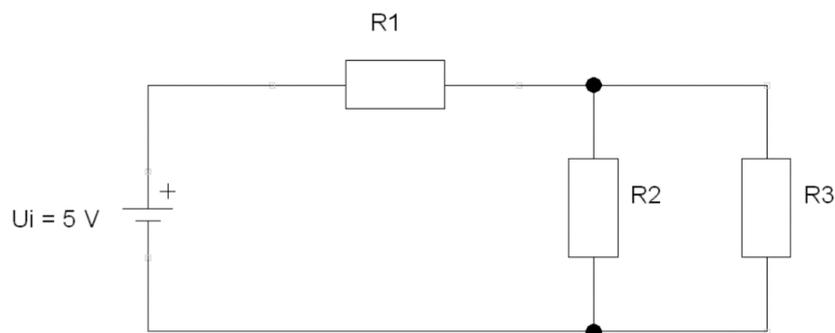

Figure 2.3: Resistors in series-parallel electrical circuit
2.3.1) The three resistors are connected in series-parallel combination to a direct voltage source. The series-parallel electrical circuit scheme/diagram is shown in the Figure 2.3.